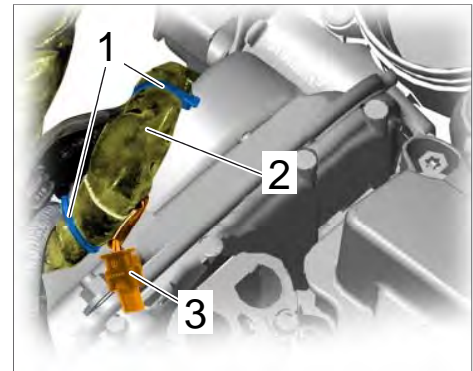

Figure 1
3.1 Remove tie-wrap ⇒ *Figure 1 -item 1-* on the main wire harness ⇒ *Figure 1 -item 2-* to allow better access to the hydraulic valve wires ⇒ *Figure 1 -item 3-*.